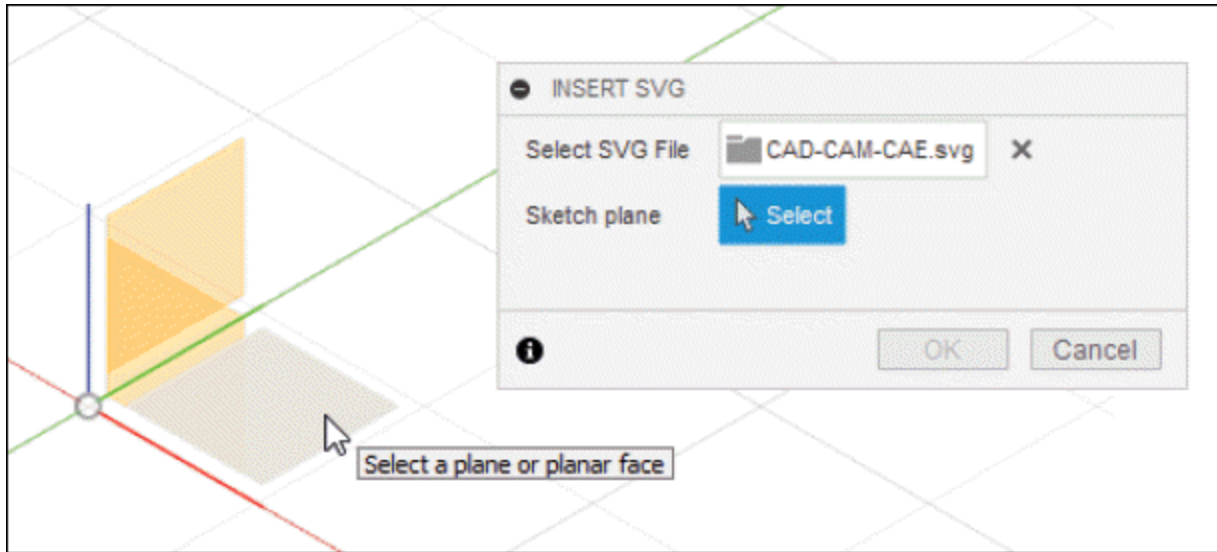

Figure-16. Selecting face or plane
- The **Select** button of **Sketch plane** section is active by default. You need to select the plane for adding SVG file. Click on the plane to select; refer to Figure-16.